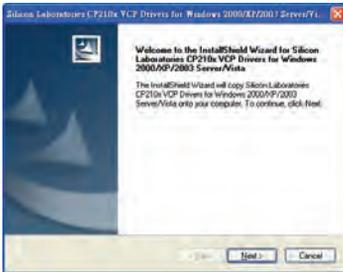

Fig.8
- (1) We recommend close all other application before installing SE378.
- (2) Insert setup CD disk to CD disk drive to display install screen. You may also run mainsetup.exe in the directory of the CD.
- (3) Click Install to begin installation.
- (4) It will install USB-120 connector driver first.
- (5) While installing, it will show this window below, just click “next” to continue.(see Fig.8)